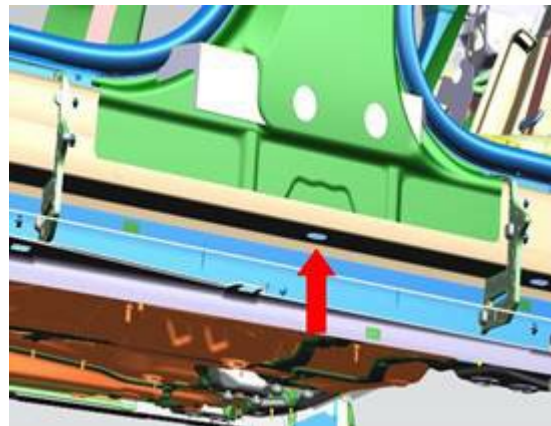

Figure 2. Water entrance point.
4. Figure 2 shows the opening where water generally enters this space.